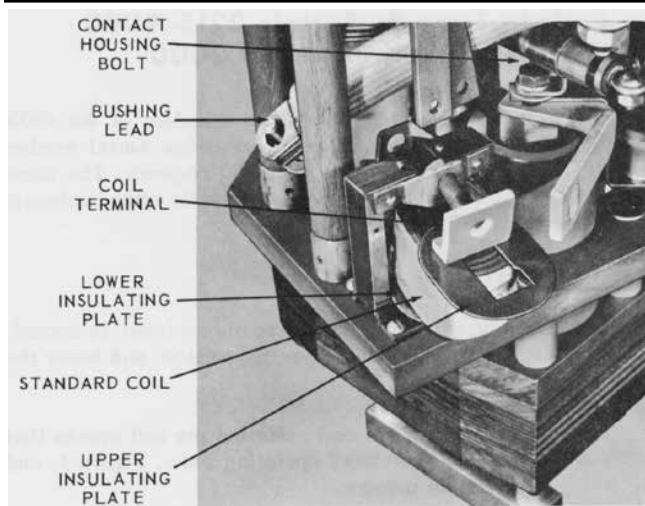

Figure 2. Standard coil partially removed or reassembled.
5. Loosen contact housing bolt indicated by arrow in Figure 2 and remove hex nut that secures the connecting bar to the coil terminal.
2. Position the upper insulating plate on top of coil as shown in Figure 2, and slide coil and insulating plate back in place.